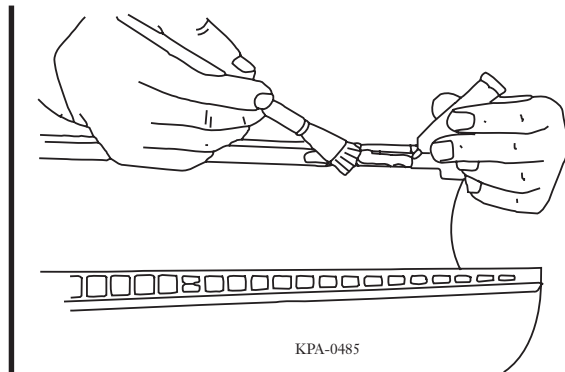

Figure 43 — Lubricate Cover Gasket
- Step 4** Retain a small amount of lubricant for use later. Cover the gasket with the remaining lubricant (Figure 43).